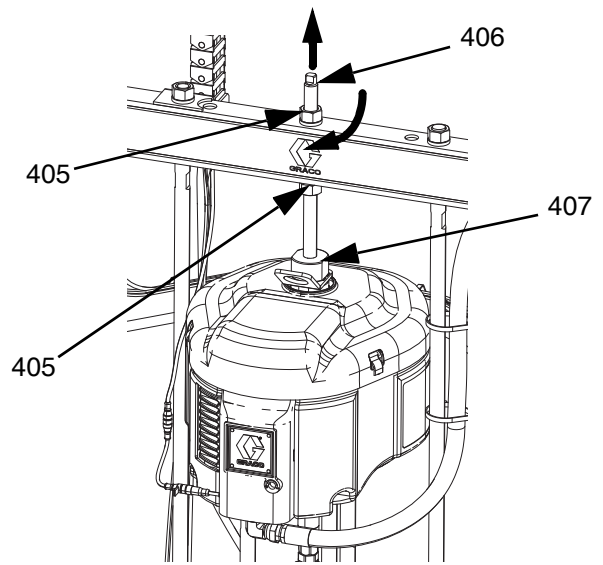

FIG. 43
1. Insert Displacement Pump (C) on Platen (D). Follow **Connect Platen** steps on page 106.
3. Connect Air Motor (B):
- a. Use wrench on nut (405) on top of tie bar to lower Air Motor (B) onto Displacement Pump (C). See FIG. 43 on page 107. Thread nut (405) up and tighten it under tie bar. Tighten nut (405) below the tie bar to 25 ft-lb (34 N•m) maximum.